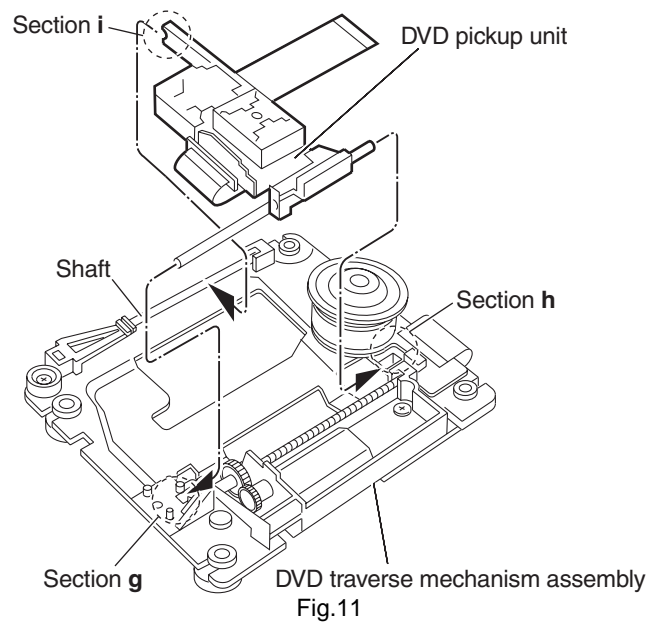

Fig.11
- (2) Engage the section **i** of the DVD pickup unit to the shaft of the DVD traverse mechanism assembly first, and set the both ends of the shaft of the DVD pickup unit in the sections **g** and **h** of the DVD traverse mechanism assembly. (See Fig.11.)